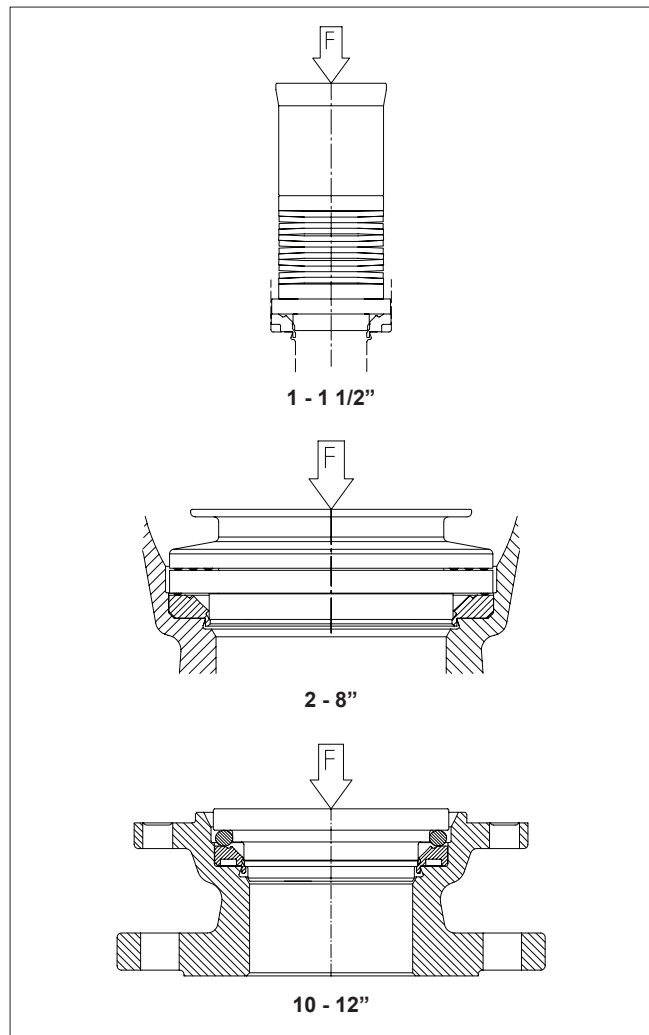

Fig. 24 Locking of the seat
- Mount the locking tool carefully over the seat, see Fig. 24.